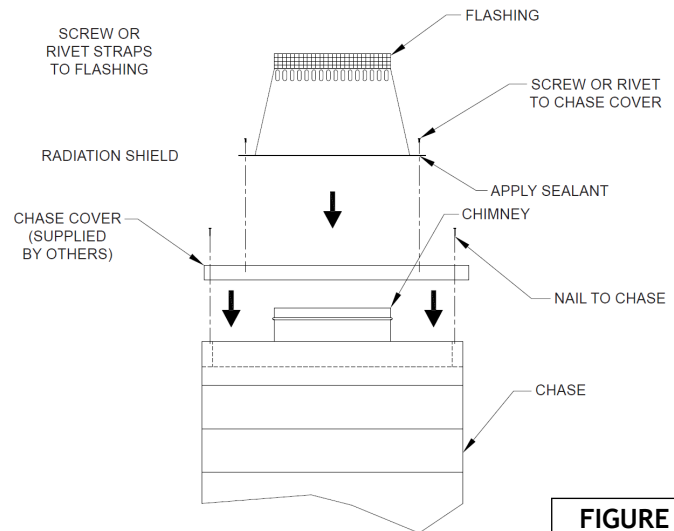

FIGURE 70
9. For chase enclosures, install the chase top cover (supplied by others) to the chase enclosure. Cut a hole in the chase top cover the same diameter as the base of the cone on the flashing. Attach the Flashing to the top of the chase cover, sealing with a non-hardening waterproof sealant. Secure in place with screws or rivets. **(Figure 70)**